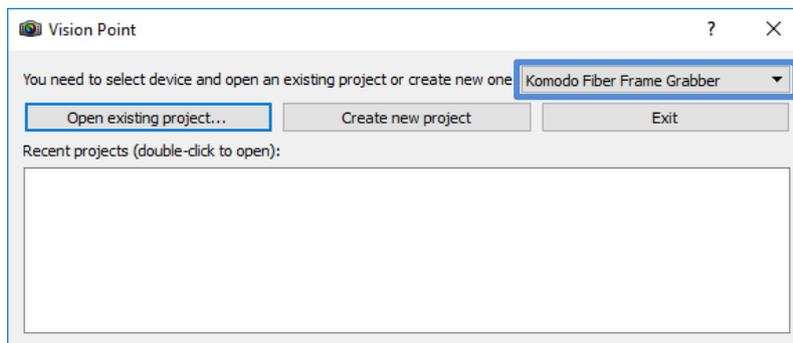

Figure 6 : Selecting a Frame Grabber
3. When the list of available target boards will open, select the required board/demo mode from the list, as shown in Figure 6.